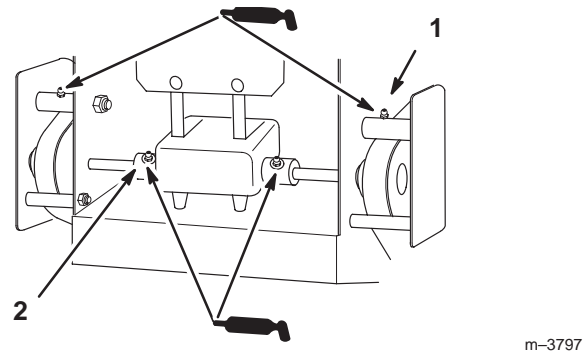

Figure 41
2. Lubricate the transmission couplers every 100 hours and idler arm pivots every 8 hours (Fig 41).